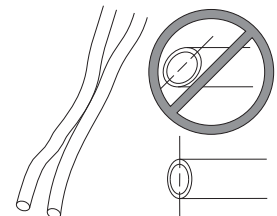

Fig. 12
3. If the tubing is too long, use a sharp knife to **cut** the tubes to the same length where they are NOT BONDED TOGETHER. Make sure the cut is straight to form a flat end on the tubes (Fig. 12).